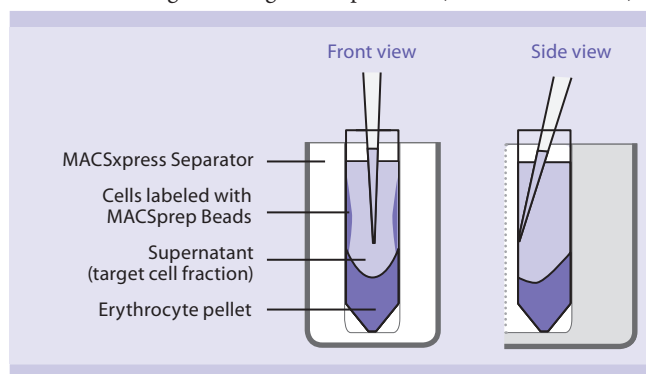

Figure 2: Front and side view of the MACSxpress Separator containing a separated blood sample in a 50 mL tube.
- While the tube is still inside the MACSxpress or MACSiMAG Separator, carefully collect the supernatant in a new 15 mL tube. For optimal recoveries, collect supernatant by moving the pipette tip top-to-bottom down the front wall of the tube (fig. 2). The supernatant contains the target cell fraction.